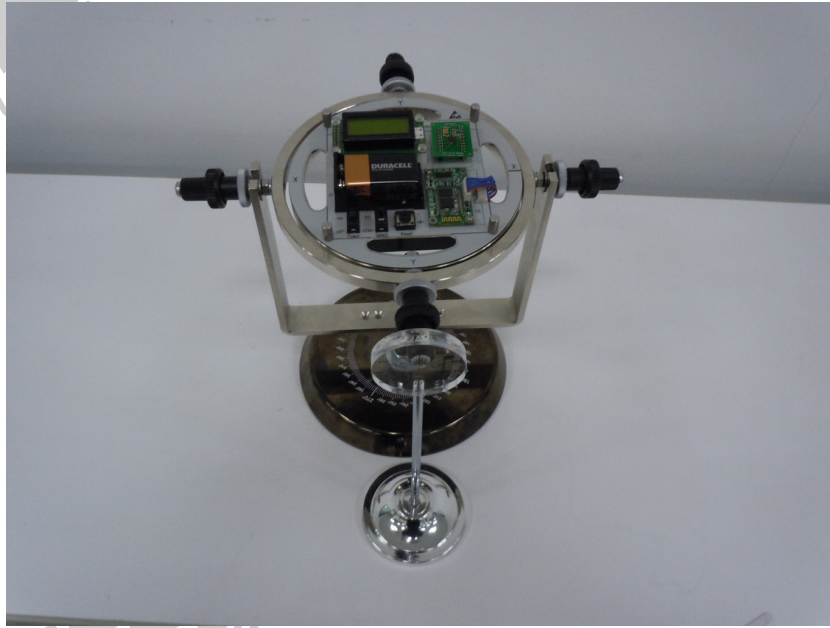

Fig. 6-4 Configuration 2
2. Place the KL-67101 XY-Axis Angle Plate in front of the X-Axis Rotary knob, as shown in Fig. 6-4.